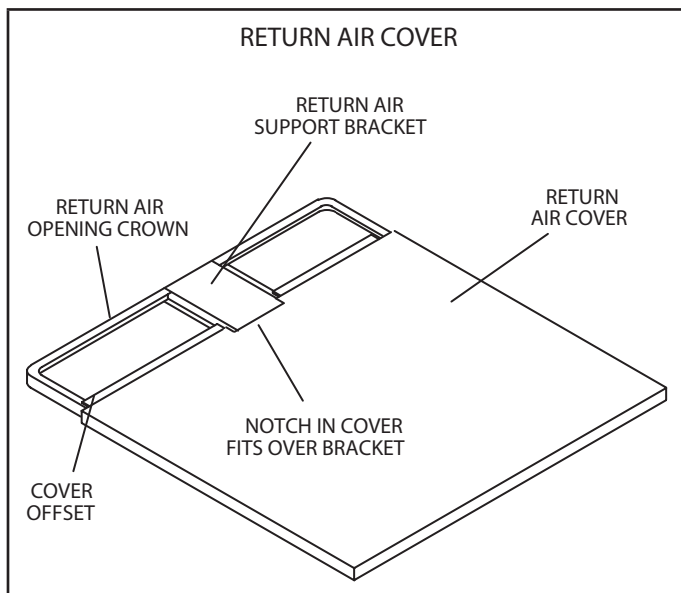

FIGURE 7
- 2 - Position the return air panel over the return air opening with the offset edge toward the unit. Fit the offset edge under the return air opening crown. See FIGURE 7.